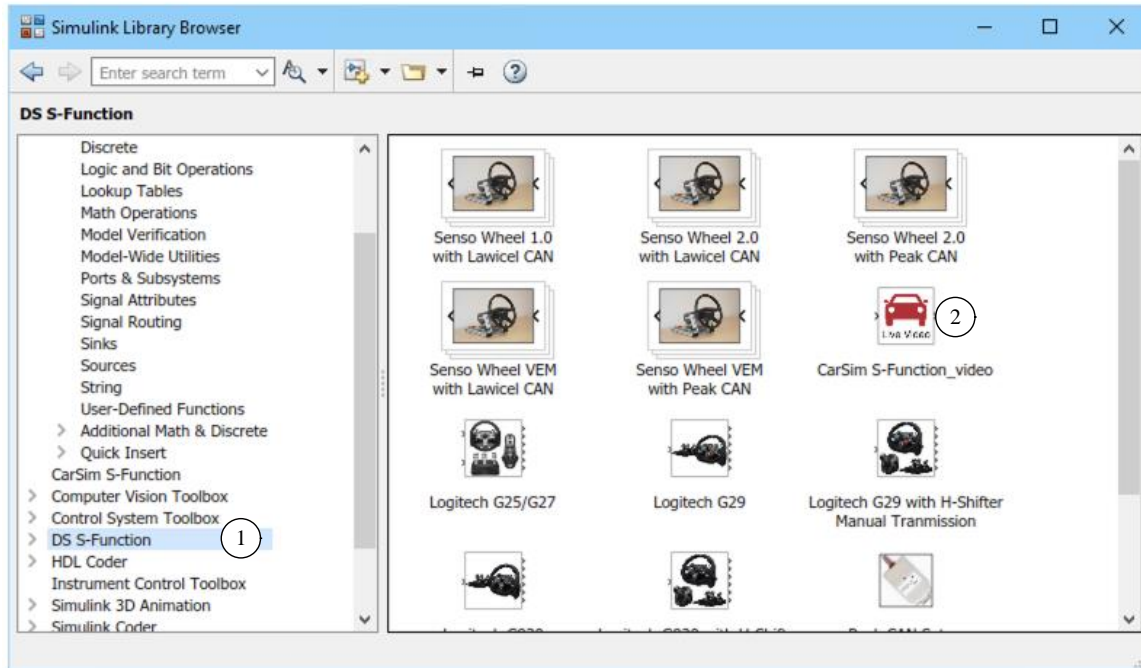

Figure 27. Simulink library of CarSim Windows DS S-Functions.
- ⑥ VS S-Function, representing either CarSim or TruckSim in the Windows DS simulation. Figure 27 shows the location of the VS S-Function in the Simulink Library Browser: The S-Function category is **DS S-Function** ①. With CarSim Windows DS the S-Function to use is **CarSim S-Function_video** ②. TruckSim Windows DS has an equivalent S-Function block.